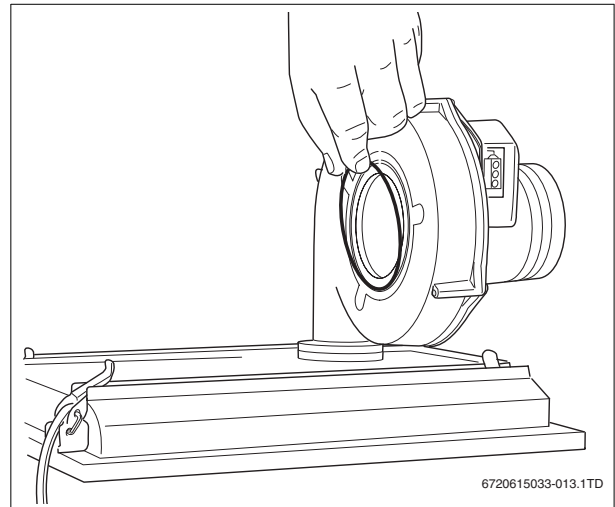

Fig. 9 Placing a new O-ring on the fan unit
- ▶ Install the venturi and gas valve on the fan unit using a new O-ring (→ fig. 9) and follow the instructions above in reverse order.